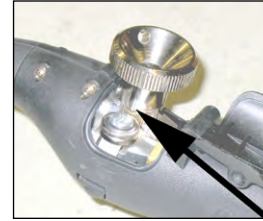

Figure 4
2. Align the Drive Roll Removal Tool (P/N 931-0100) over the flats of the drive roll (as shown in Figure 4). Hold the gun with one hand or on a table top, with the other hand give the Removal Tool a quick snap-turn in the **CLOCKWISE DIRECTION**.